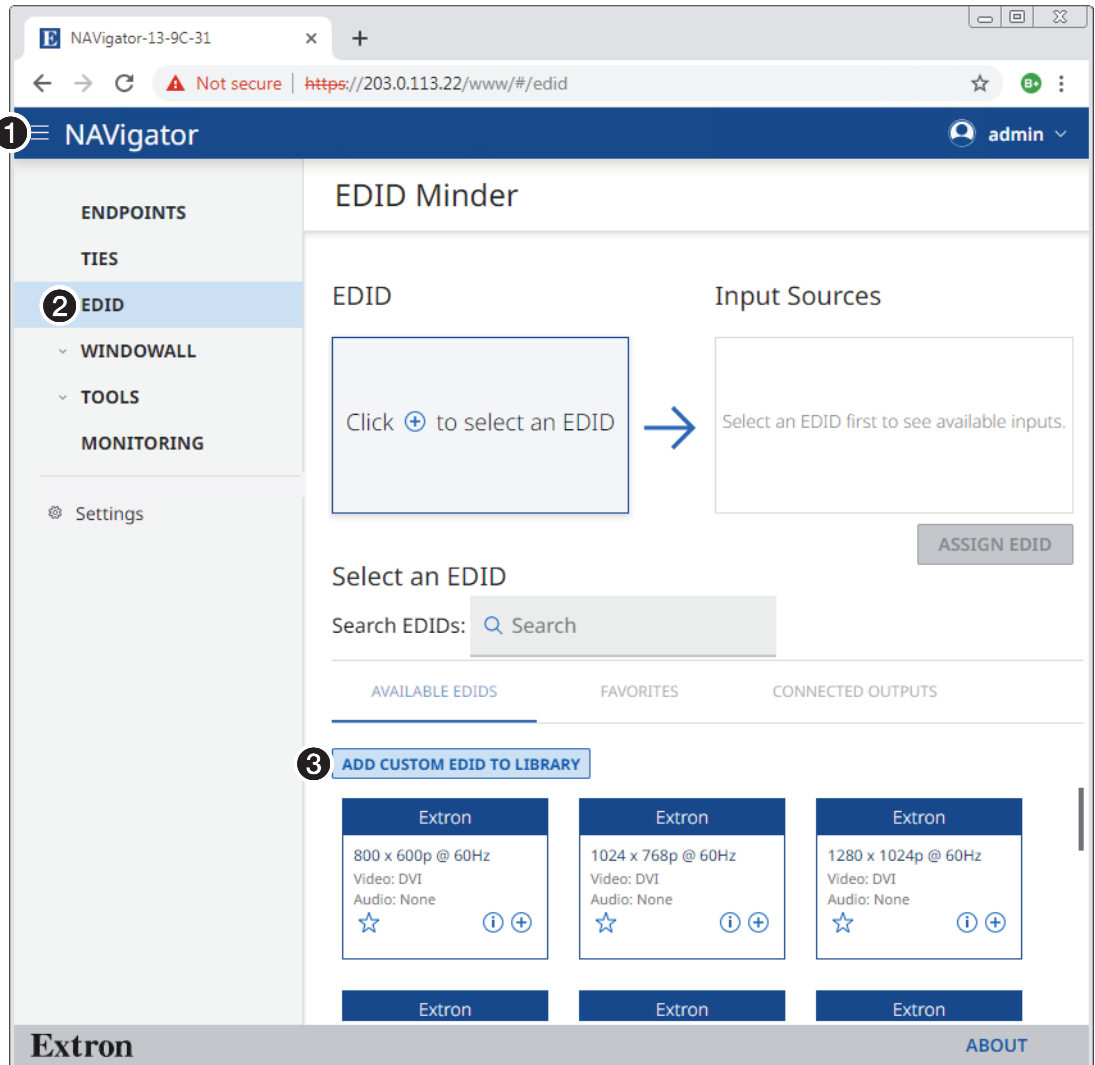

Figure 56. EDID Page — Add a Custom EDID
1. If necessary, click the **Menu** icon (see figure 56, ❶).